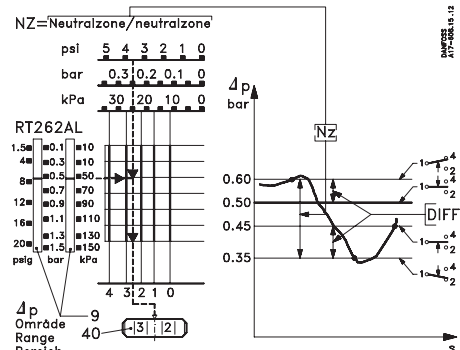

Fig. 6
Required differential pressure $\Delta p = 0.5$ bar. Required neutral zone Nz = 0.25 bar. As can be seen on the diagram, fig. 6., the required neutral zone of 0.25 bar is obtained by setting the neutral zone disc (40) at 2.5. Because the contact differential is 0.1 bar, the make and break differential pressures for the switch are: